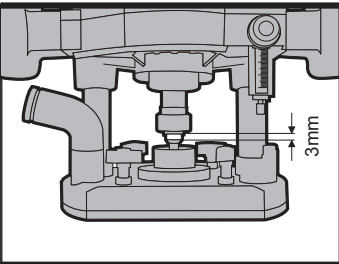

Fig 4
-Press in the spindle lock and tighten the collet nut, making sure at least 3mm protrudes from the end of the shank. See Fig4. Refer to the manufacturers instructions for your router bit, where this gap will be defined as the Maximum Free Shank Length.